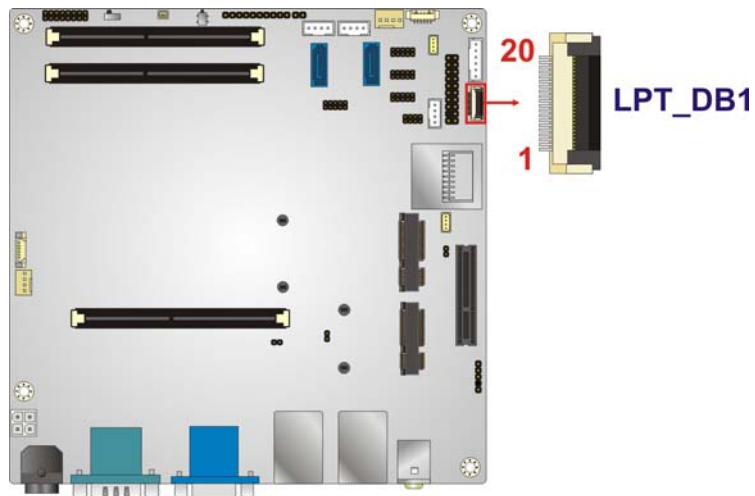

Figure 3-10: EC Debug Connector Location
- CN Location:** See **Figure 3-10**